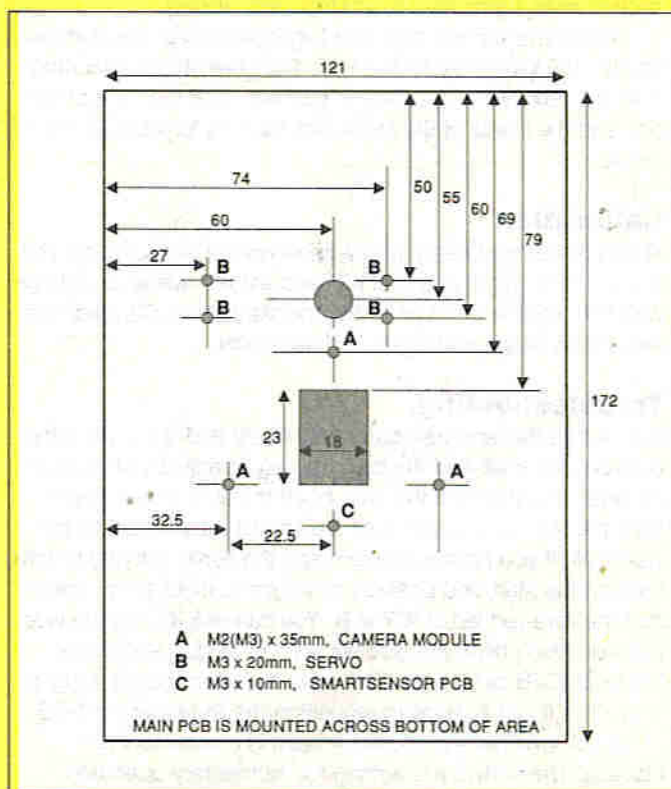

Figure 5: a dimensional diagram showing the relative positions of the PCBs, servo motor and camera module used in the prototype
An aluminium box with outside measurements of 114 (L) x 89 (W) x 55 (H) was used in the prototype, and all measurements are given for this box. The PCB, servo motor and all mechanical parts are mounted on the inside of the cover of this box. Only the lens disc appears outside the cover of the aluminium box. The whole is then covered by the security shell. Therefore, the inside measurements of the aluminium box must be at least 105mm wide, so that the PCB can be fitted across the width of the box. A dimensions diagram for the prototype is given in **figure 5**, which, when compared with **figure 6**, will indicate how I laid out the PCBs and the camera module to work together. The